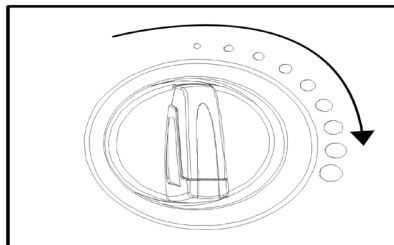

Fig. 8
- The knob (Fig. 8) is used to regulate the flow of the cleaning solution when using the machine. Turning clockwise will increase the flow of the cleaning solution.